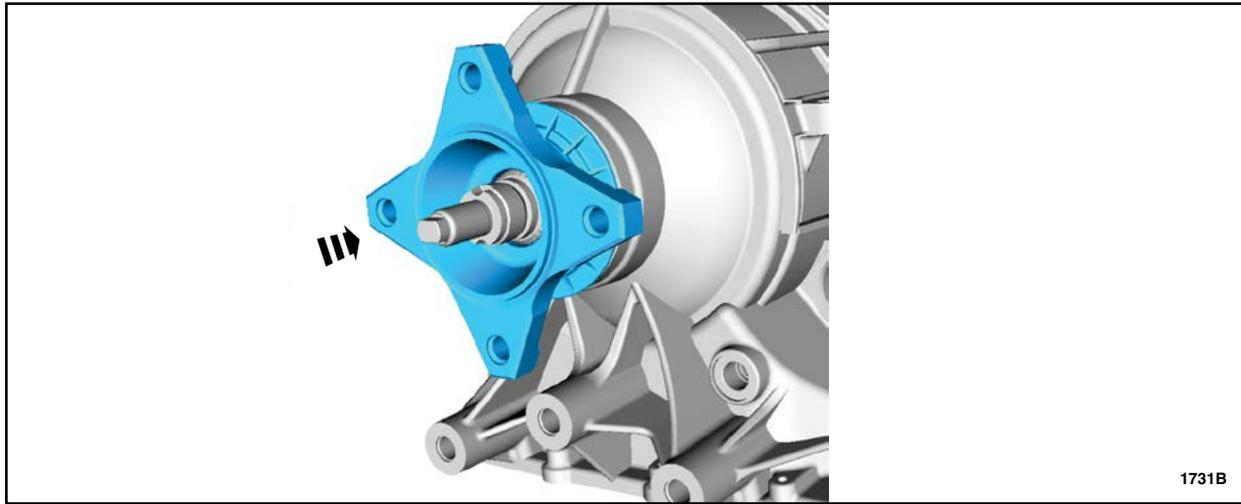

FIGURE 19
- Using a 1/2" drive, 34mm, 12-point deep socket, install a *new* 4-bolt transmission output shaft flange and retaining nut. See Figures 19 and 20.